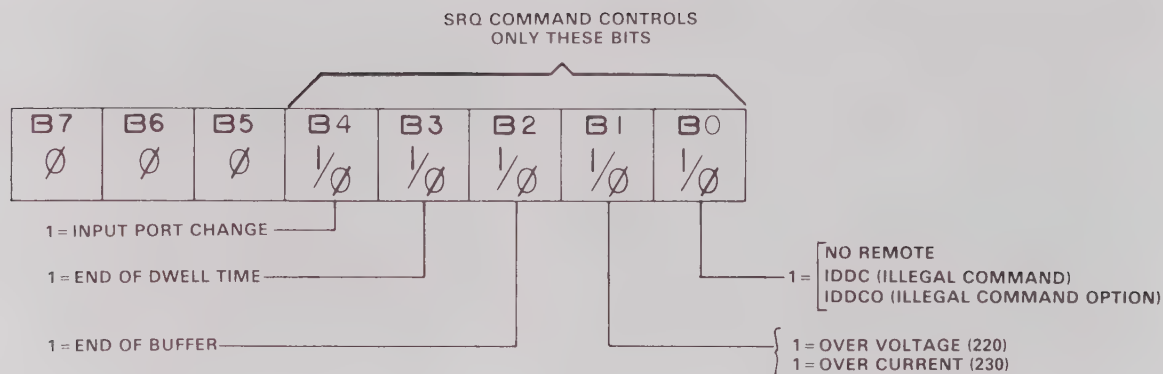

Figure 4-2. SRQ Mask Format
**SRQ Mask**-In order to facilitate SRQ programming, the Models 220 and 230 make use of a mask when generating an SRQ. When the appropriate bit in the mask is set, the instrument will generate an SRQ when those particular conditions exist. Figure 4-2 shows the format of the SRQ mask byte. Bits within the mask can be controlled by sending the ASCII character "M" followed by a decimal number from 0 to 31. Table 4-7 lists the conditions that will cause an SRQ for each command parameter. Note that the instrument can be programmed for one or more conditions simultaneously.